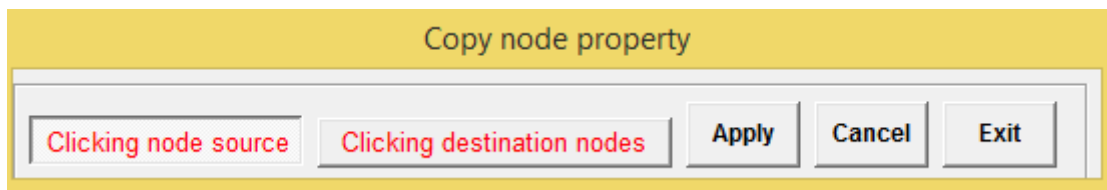
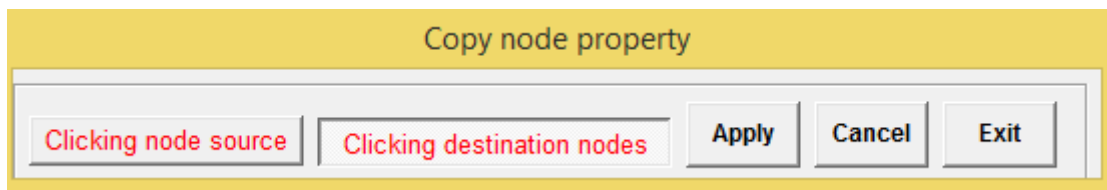

Figure 14
Figure 15
**Step 1:** Click button.  Figure 14 will appear.
**Step 2:** Click the node to be copied (i.e., source node). (After clicking the source node Figure 14 will change to Figure 15). The change from Figure 14 to Figure 15 indicates that you are now in the 'clicking destination node' mode as shown in the clicked 'Clicking destination nodes' button.